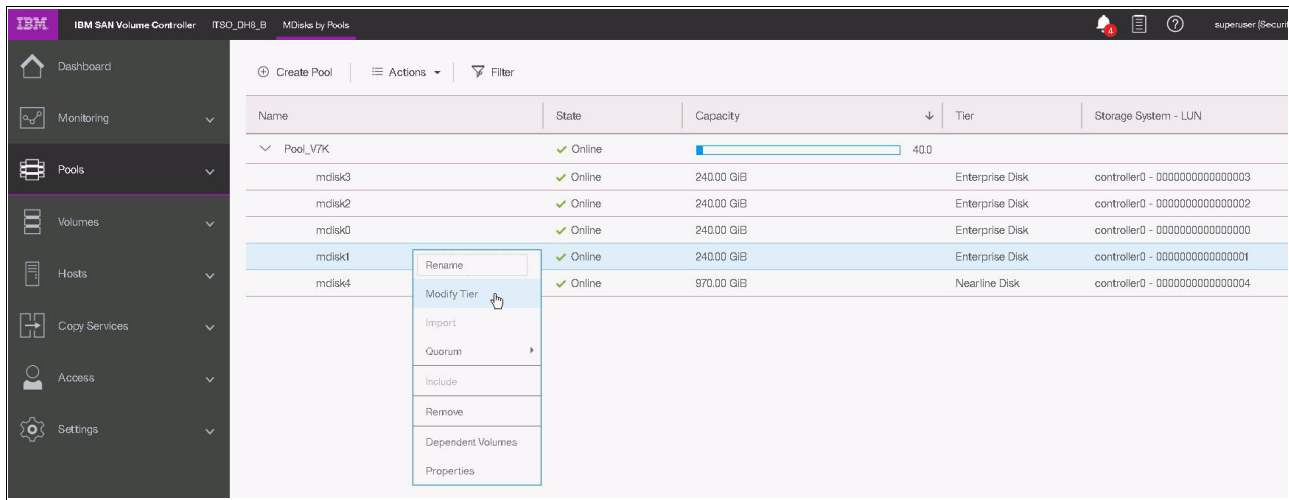

Figure 4-27 Change the MDisk tier
2. Right-click the wanted MDisk and select **Modify Tier** (see Figure 4-27).